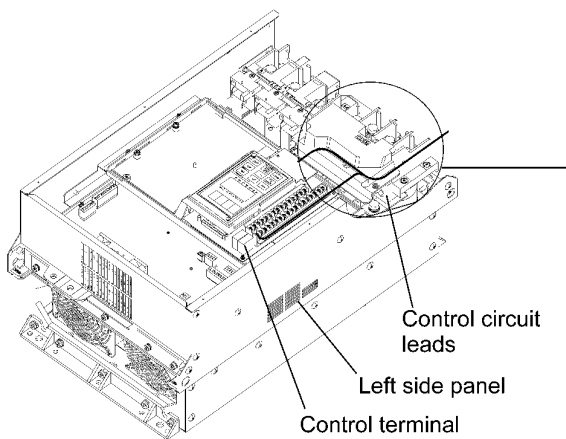

Figure 3-3-14
- (a) Pull the wiring out along the left side panel of the inverter as shown in Figure 3-3-14.